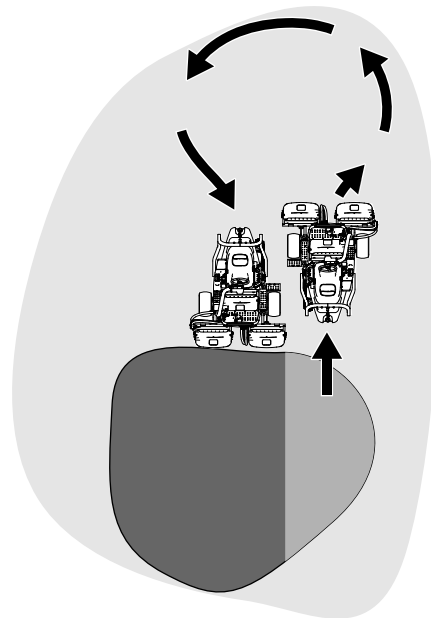

Figure 26
6. To cut down on operating time and to ease the lineup for the next pass, momentarily turn the machine in the opposite direction, then turn it in the direction of the uncut portion. This movement is a tear-shaped turn (Figure 26), which quickly lines the machine up for your next pass.